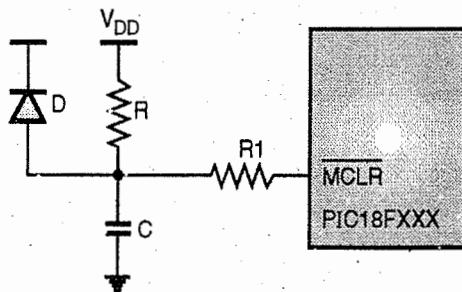

Fig. 4.15.2 : External power-on reset circuit (For Slow  $V_{DD}$  Power-Up).
- MCLR pin uses an RC network for power on reset for ESD protection as shown in Fig. 4.15.2.